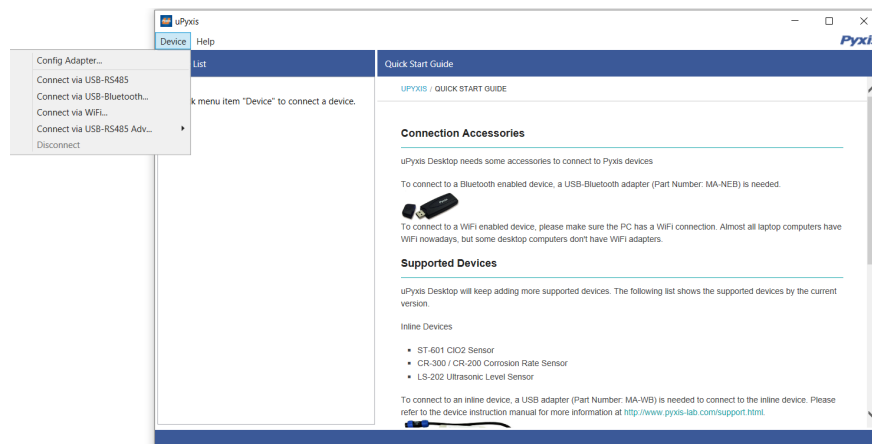

Figure 30.
4. On **uPyxis®** Desktop App, click Device → **Connect via USB-Bluetooth** (Figure 30).
5. If the connection is successful, the SP-380 and its Serial Number (SN) will be displayed in the left pane of the **uPyxis®** window.